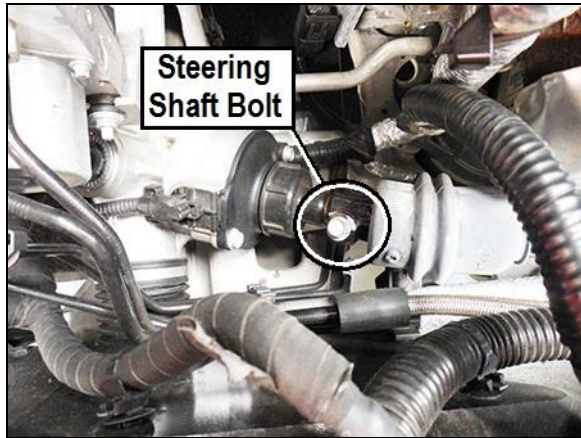

Figure 3
12. Position the steering wheel so the 11mm bolt at the coupler to the steering rack is accessible, loop the driver's seat belt through the steering wheel and latch the belt. This will keep the steering wheel from being turned while the coupler is disconnected to prevent damage to the clock spring (**Figure 3**).
13. Remove the 11mm bolt at the coupler to the steering rack and slide the shaft from the rack (**Figure 3**).